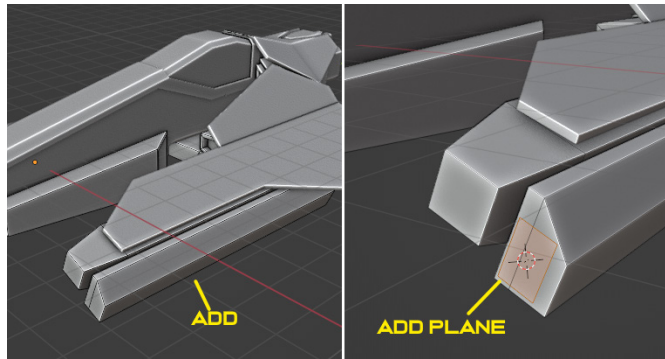

Figure 5.38 – Wing side
1. Add a shape to the side of the wing, as shown in the left panel of *Figure 5.38*. At the front of the shape, add a plane and rotate it to the same angle as the previously created shape.